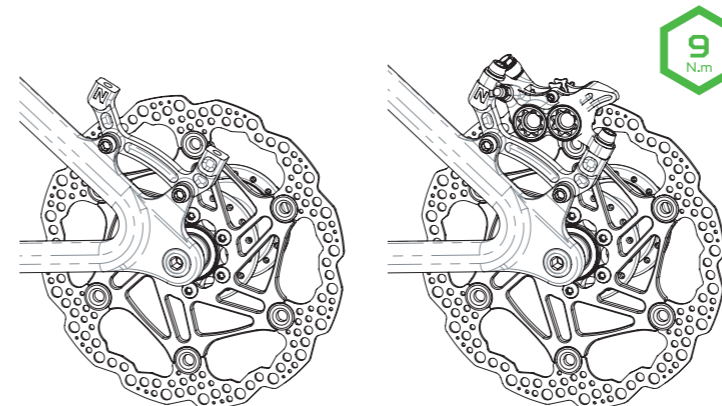

Fig 002
**001** According to the rotor size and type of mounts, attach the suitable adaptor bracket onto the brake tabs and tighten the two M6 bolts using a 5mm hex. Recommended tightening torque **8-9 N.m**. Illustration Fig 002.